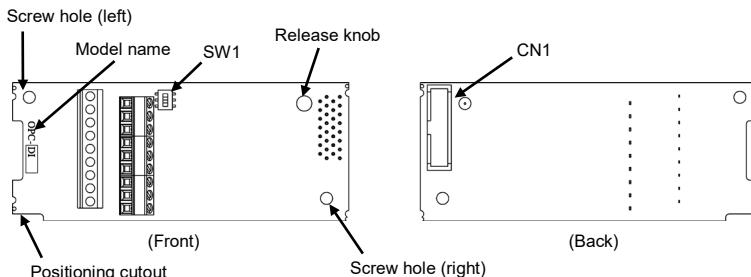

Figure 1.1 Name of Parts on Digital Input Interface Card (OPC-DI)
- (1) An interface card, two screws (M3 × 8), and the Digital Input Interface Card/Digital Output Interface Card Instruction Manual are contained in the package.
- (2) The interface card is not damaged during transportation--no defective parts, dents or warps.
- (3) The following model name is printed on the interface card.
- Digital input interface card: "OPC-DI" (See Figure 1.1.)
- (2) Insert connector CN1 on the back of the interface card (Figure 1.1 or 1.2) into any of the A-port (CN4), B-port (CN5), and C-port (CN6) on the inverter's control PCB. Then tighten the two screws that come with the card. (Figure 1.5)
-  Check that the positioning cutout (shown in Figures 1.1 and 1.2) is fitted on the tab (① in Figure 1.4) and connector CN1 is fully inserted (② in Figure 1.4). Figure 1.5 shows the interface card correctly mounted.
- (3) Perform wiring on the interface card.
- (4) Put the front cover back into place.